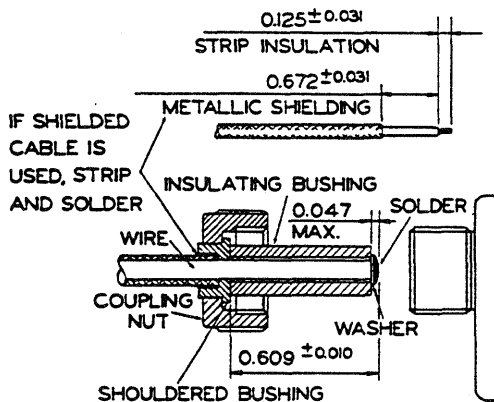

Figure 920. Terminal Connection Assembly
- A. Remove plug (44) to allow visual access to distributor gear (72). Turn rotor (54) until red tooth on gear is approximately centered in timing hole in housing (48). This is approximately cylinder No. 1 normal firing position of magneto. Turn rotor slightly in reverse direction of normal rotation and allow to rest in magnetic neutral position. Red tooth should appear off center in timing hole.
- B. Using 11-9110-1 Timing Light and adapters made from appropriate terminal kits (if necessary, see Figure 920), install and adjust magneto on engine in accordance with engine manufacturer's instructions.
- D. As required, assemble Terminal Kit(s) for each magneto as shown in Figure 920.
- F. For pressurized magnetos, remove and discard plug (44) (supplied for shipping purposes). Assemble air inlet fitting into timing hole in housing (48). Ensure air inlet fitting does not interfere with internal magneto parts.
- G. Attach tachometer fittings to magneto following manufacturer's instructions. If hole adjacent to rotating magnet (54) in magneto housing (50) is to be used for a tachometer pick-up, in an unpressurized magneto, install ventilator plug, (46) in timing hole of distributor housing (48), and discard solid plug (44).